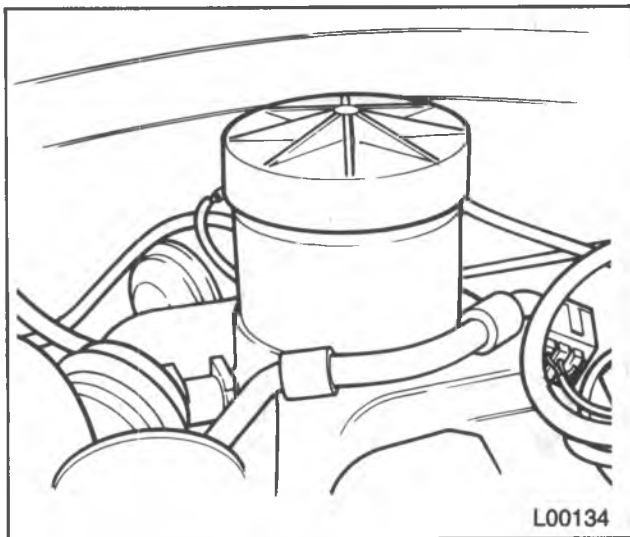

Figure 7 — Manifold Cover, Installed
- Cover the air intake with J 29664 to prevent foreign material from falling into the manifold (Figure 7).
- Remove J 29664 from the air cleaner inlet (Figure 7).